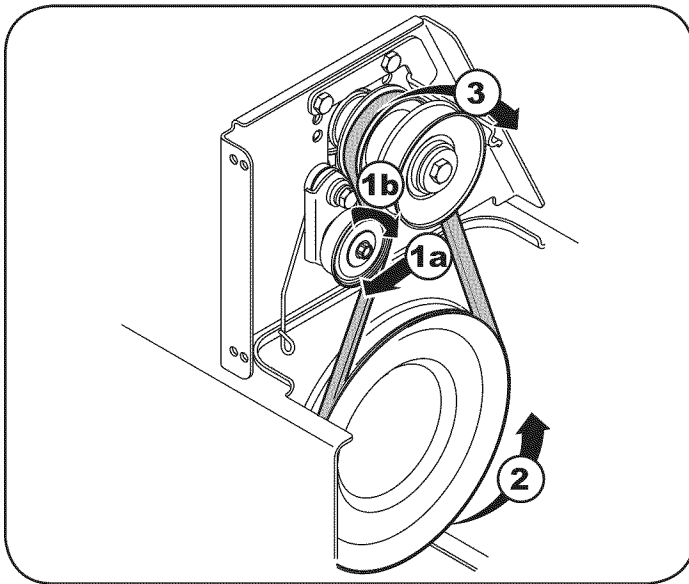

Figure 33
1. a. Pull the idler pulley away from the backside of the drive belt to relieve the tension. See Figure 33.